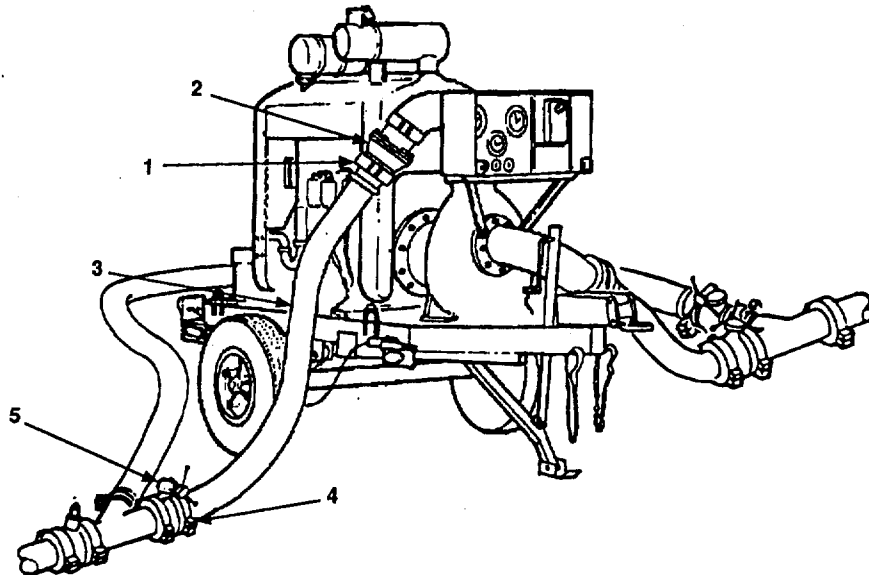

Figure 4-5. Hose Assembly Replacement.
- a. Remove 6 inch grooved pipe coupling (Figure 4-5, 1) from check valve (2) and 6 inch x 20 foot hose assembly (3).
- b. Remove grooved-end pipe quick disconnect coupling clamp (4) from 6 inch butterfly valve assembly (5) and 6 inch x 20 foot hose assembly (3).
- c. Remove 6 inch x 20 foot hose assembly (3).
- a. Align 6 inch x 20 foot discharge hose assembly (3) for installation.